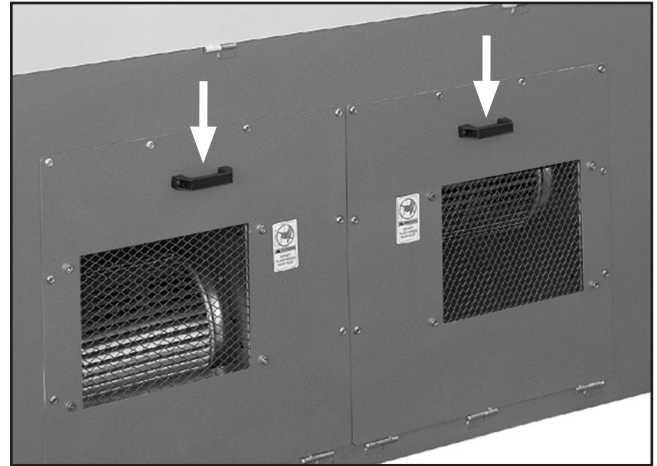

Figure 11. Outlet plate handles mounted.
7. Using ¼"-20 x 5/8 Phillips head screws, mount the handles on the outlet plates at the rear of the downdraft table as shown in **Figure 11**.